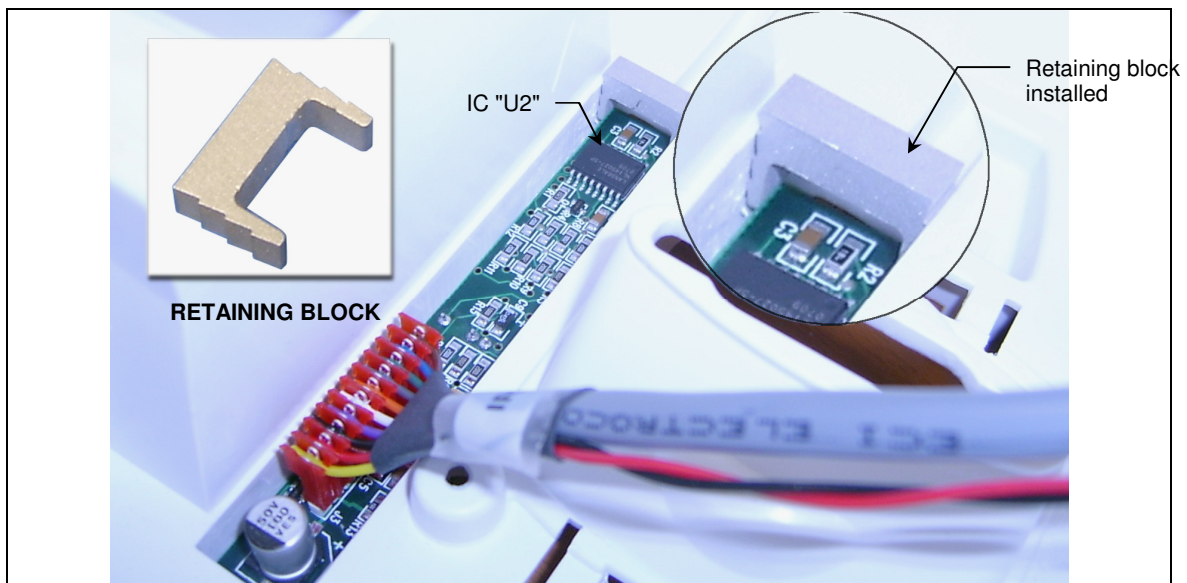

Fig. 5
5) Place the retaining block over the end of the IR detector circuit board where IC "U2" is located, as shown in figure 5. Be careful not to allow the retaining block to touch any of the components on the board, since it is made of aluminum, and would cause a short-circuit to occur.